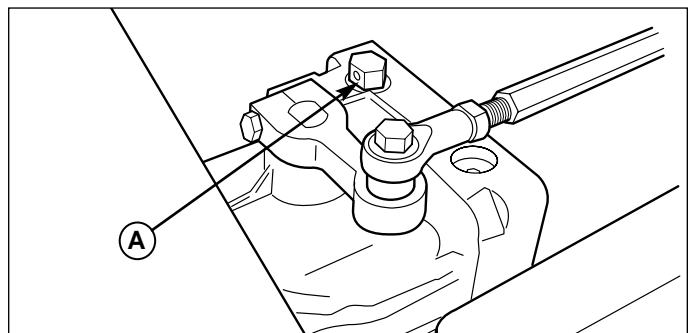

Figure 2. Hydraulic Release Valve Location
1. See Figure 2 to locate the hydraulic release valves.